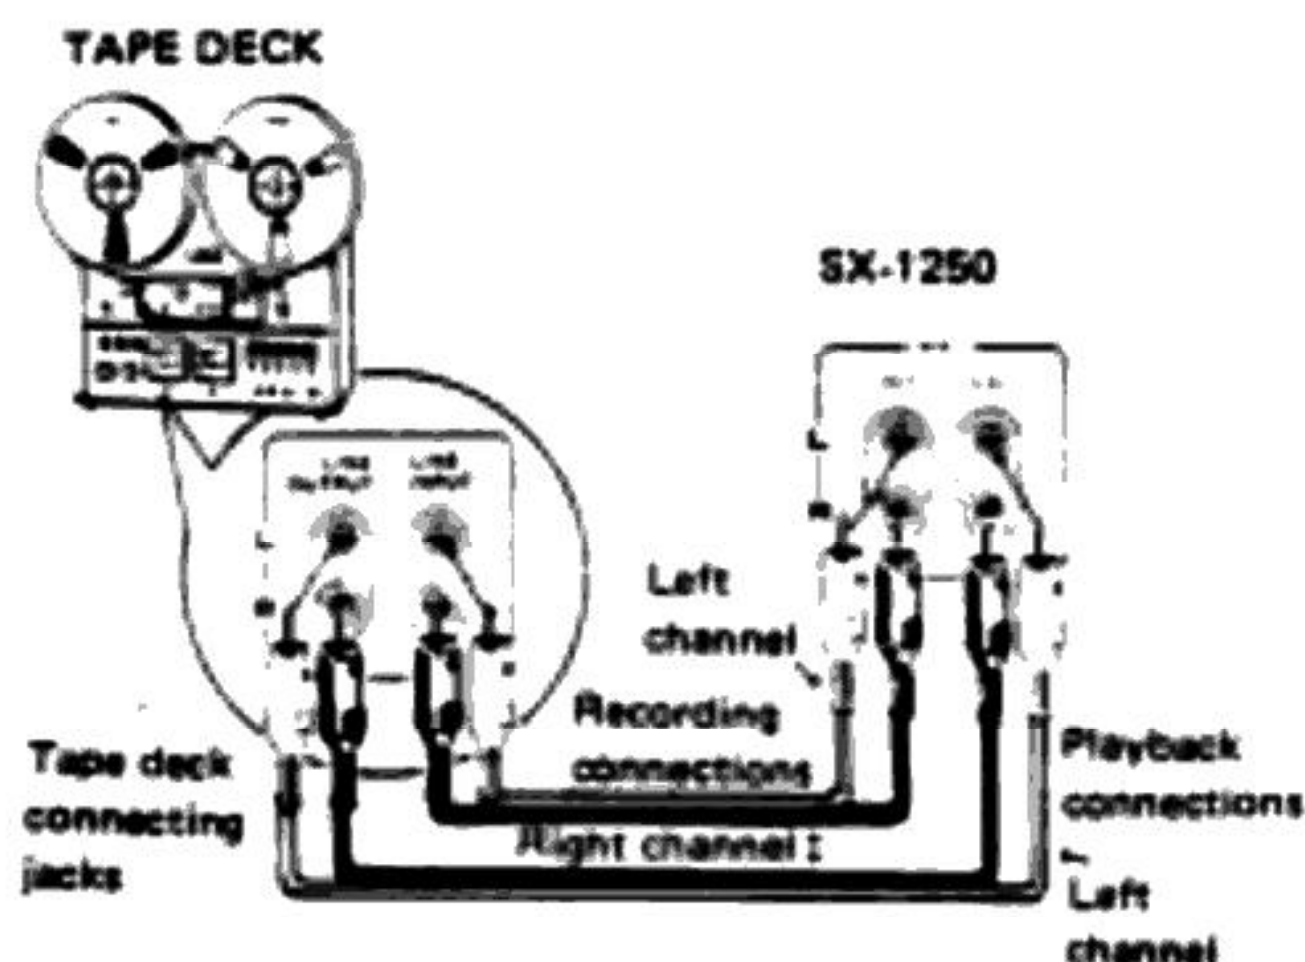

Fig. 4
Use the connecting cord(s) provided with the tape deck(s) to make the connections (see Fig. 4).
- The receiver output TAPE 1 REC jacks are connected to the recording input jacks (LINE INPUT) of the tape deck as shown in Fig. 4.